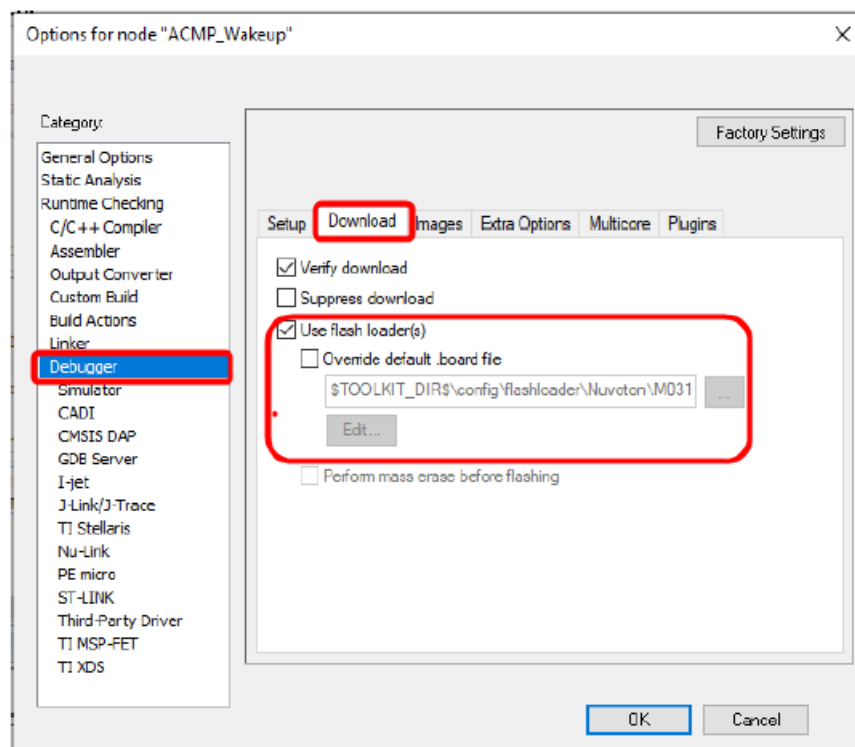

Figure 4-17 IAR EWARM Programming Settings
Step 5: In the Download tab of the Debugger page, make sure that the Use flash loader(s) option is selected, as shown in Figure 4-17.